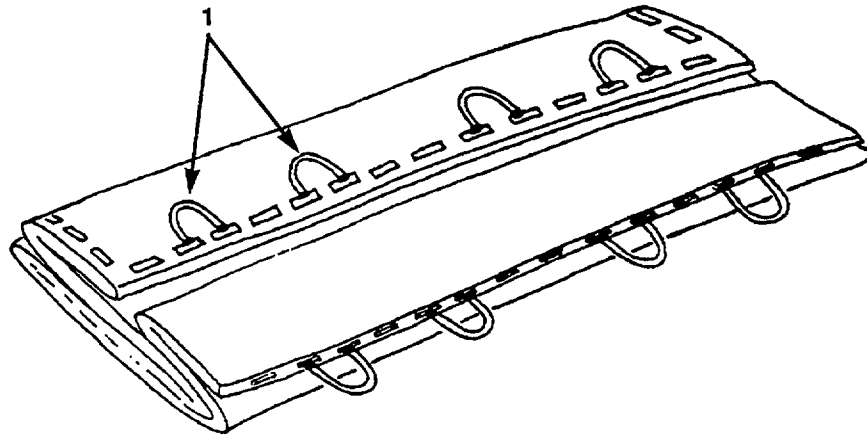

Figure 4-4. Deployment
- (5) After skid is removed, unroll tank by pushing on roll.
- (6) Unfold tank by pulling each row of deployment straps (1) in opposite directions. (See Figure 4-4.) This will extend the two top folded layers.